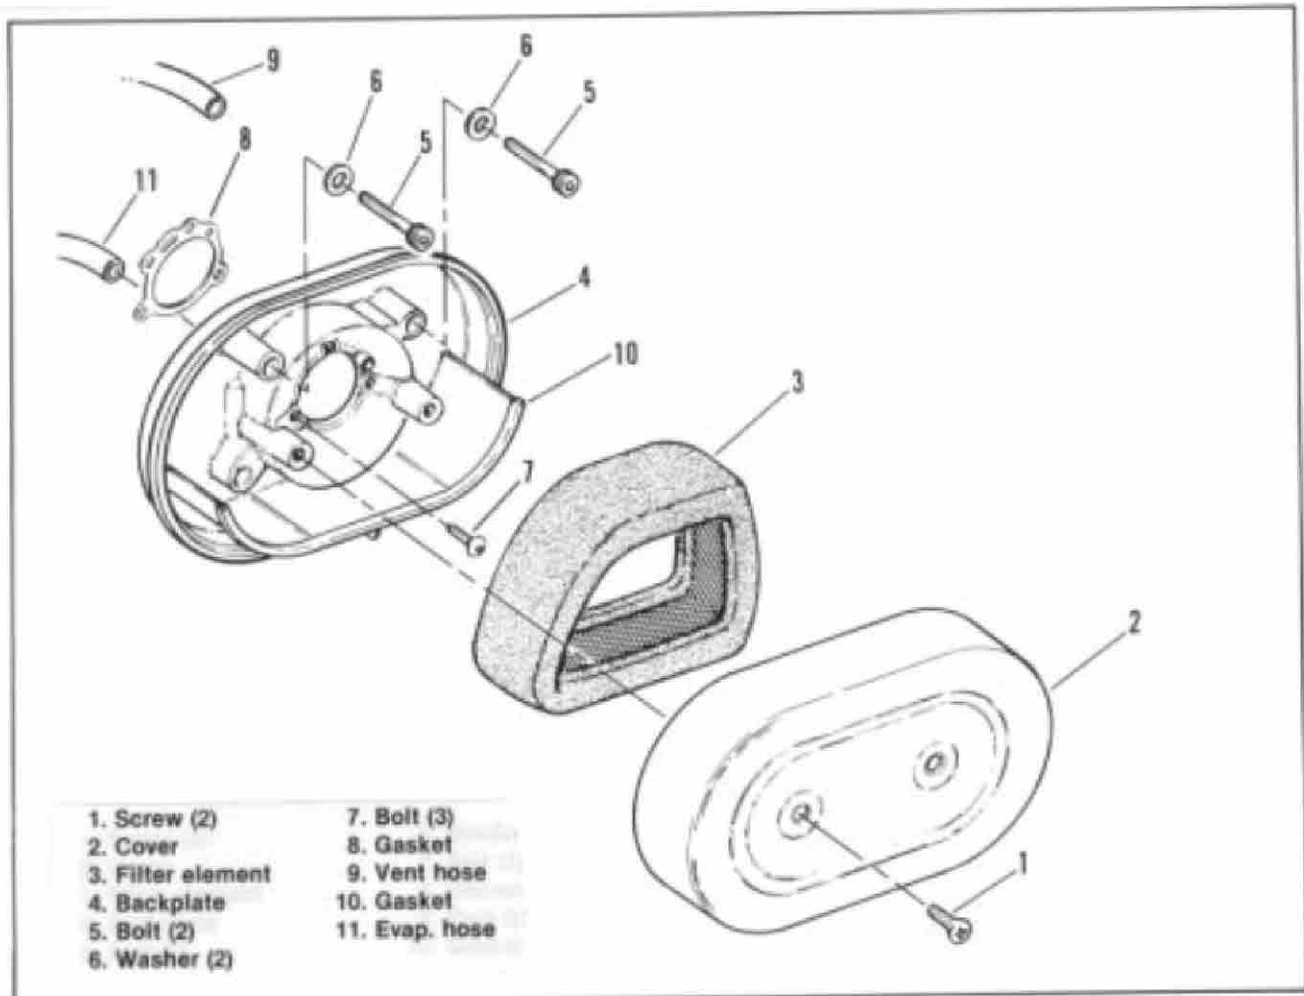

Figure 2. Air Cleaner
2. See Figure 2. Remove screws (1) from air cleaner cover (2). Remove cover from backplate (4).
3. Remove filter element (3) from backplate (4).
4. Remove screws (5) and washers (6) from backplate.
5. Turn captive screws (7) out of carburetor a couple of turns each, in sequence, while pulling the backplate away from carburetor. Remove backplate from carburetor.
See Figure 2. Check that captive bolts (7) are threaded all the way into backplate prior to installing backplate to reduce the possibility of cross threading the bolts in the carburetor.
- Connect the crankcase vent hose (9) and evap. hose (11) to backplate (4).
- Position gasket (8) and backplate (4) at carburetor. Start each captive screw (7) into carburetor. Turn each screw a couple of turns, in sequence, until backplate is drawn to a loose fit at mounting surface.
- Loosely install screws (5) with washers (6) through backplate (4) into cylinder heads.
- Tighten screws (7) to 3-5 ft-lbs torque.
- Tighten screws (5) to 10-12 ft-lbs torque.
- Install air cleaner filter element (3) and cover (2) to backplate (4). Install screws (1) securing cover. Tighten screws to 3-5 ft-lbs torque.